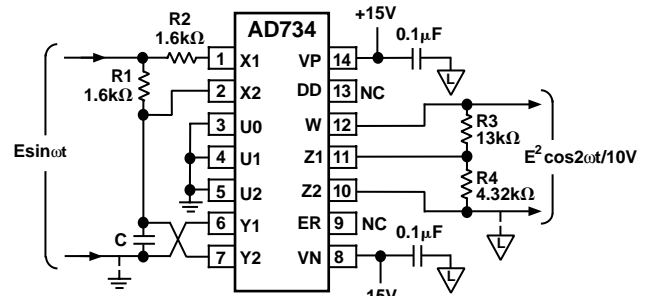

Figure 7. Frequency Doubler
Equation (8) shows a dc term at the output which will vary strongly with the amplitude of the input, E. This dc term can be avoided using the connection shown in Figure 7, where an RC-network is used to generate two signals whose product has no dc term. The output is